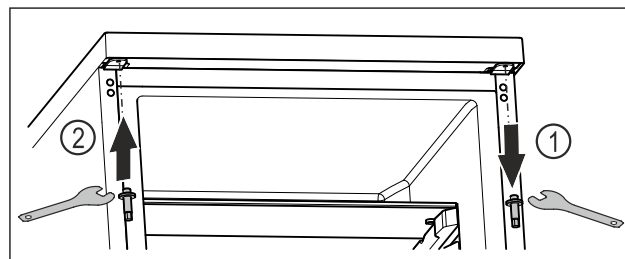

Fig. 20
- ▶ Unscrew the upper bolt with an Allen key. Fig. 20 (1)
- ▶ Tighten the bolt on the opposite side with an Allen key. Fig. 20 (2)